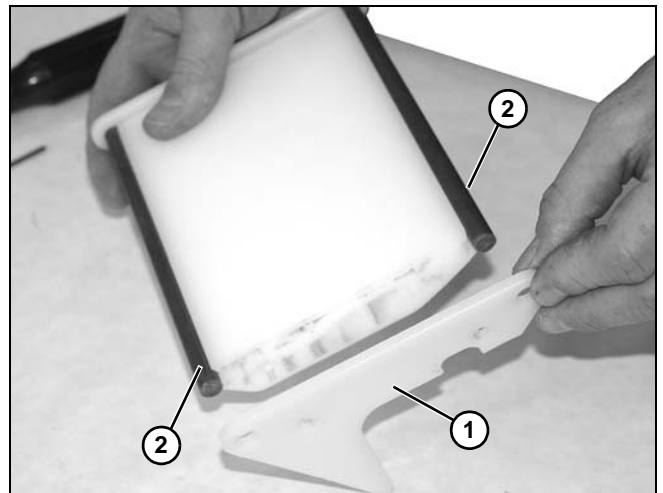

Figure 132
25. Disassemble side guide plate (**Figure 132, item 1**), from wear rods (**Figure 132, item 2**).